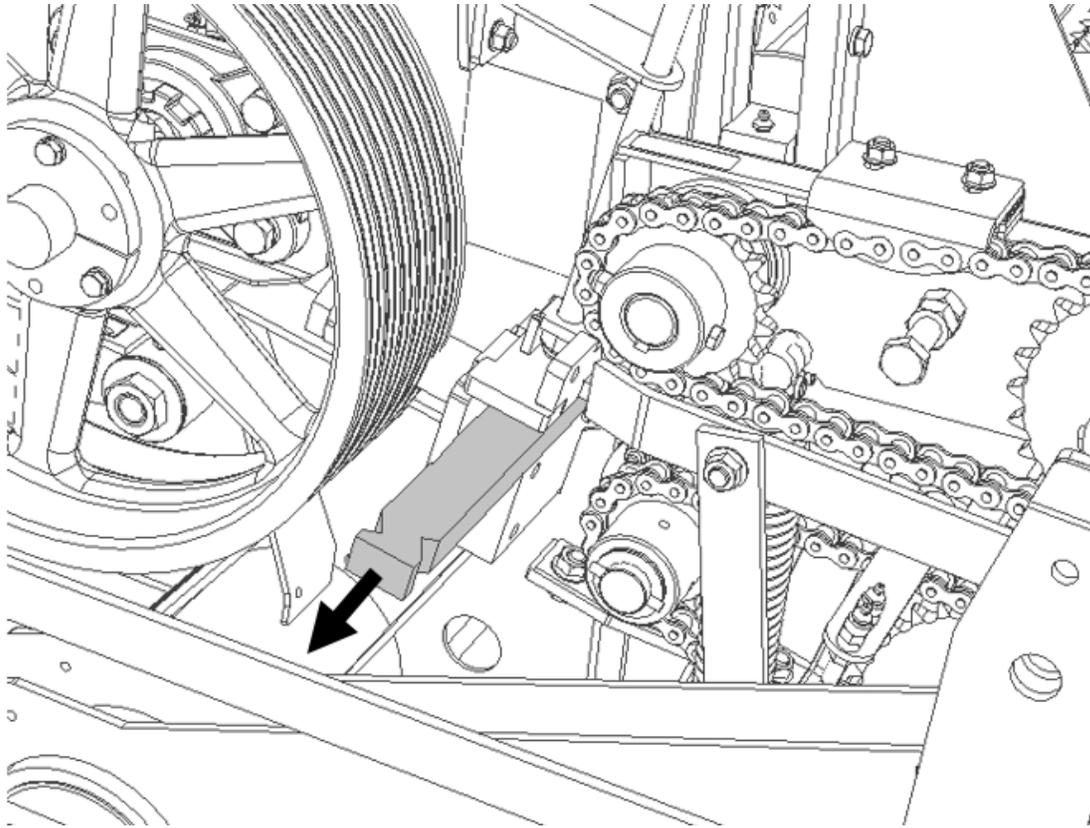

Figure 116 Removing the shear bar
3. Remove the shear bar adjuster module (item 8, see note above for serial# 8XXXXX1.) by removing bolts (item 7).
4. Remove the shear bar (Figure 116 Removing the shear bar), clean it, and verify the condition of the cutting edge.